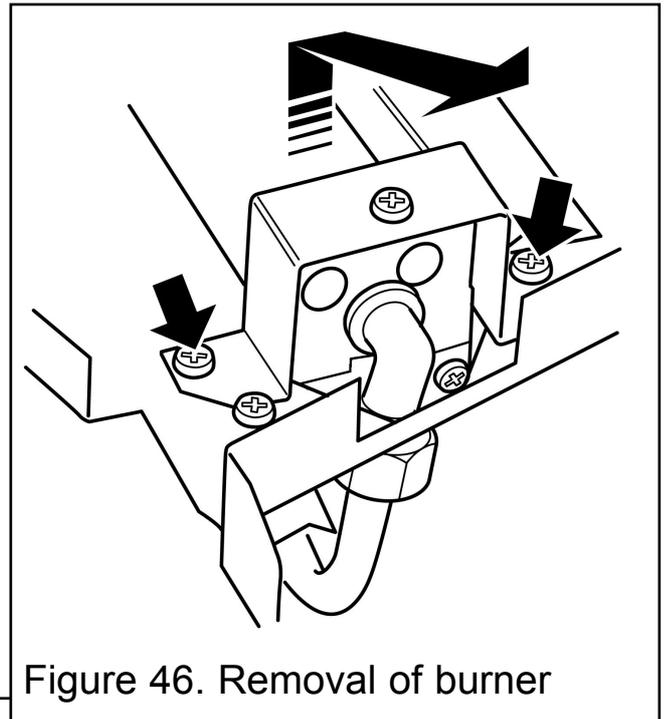

Figure 46. Removal of burner
See figure 46.
3. Remove the two screws from the burner clamping plate (See figure 46)